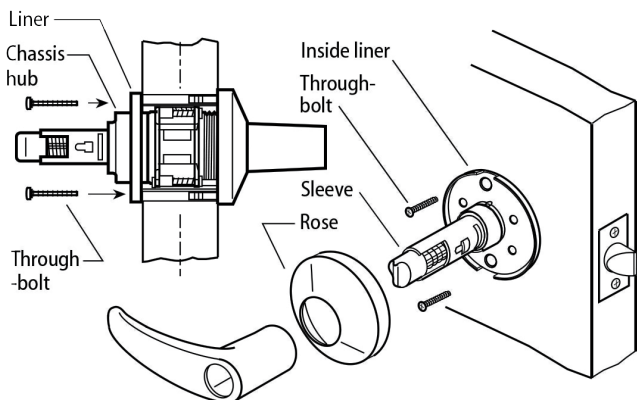

Figure 6 — Installing liner, through bolts, rose, and lever
- Install through-bolts through the liner and door in the top and bottom holes as shown in Figure 6.